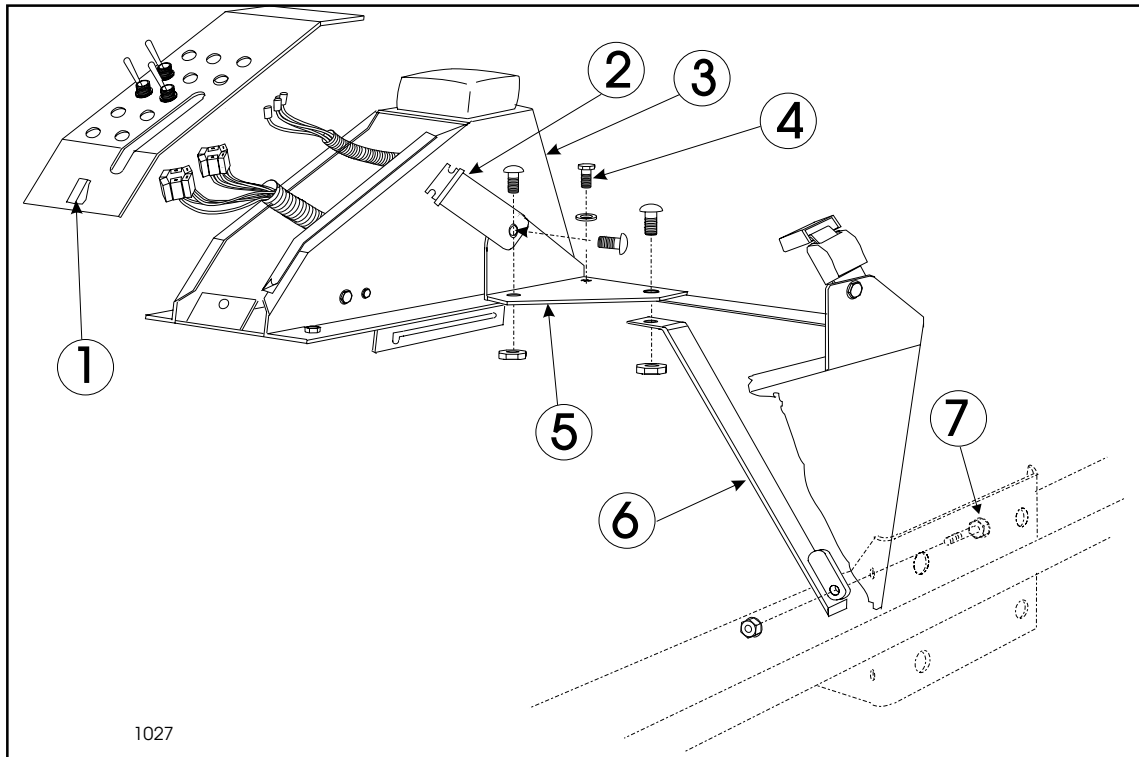

Figure 2
3. Remove lower rear mounting bolt and nut from L.H. Seat Box Panel and discard. Remove rear Center Console mounting bolt and flatwasher. Save for future use. Place inside L.H. Seat Belt Support on top of rear Seat Box Panel and along Center Console. See Fig. 2.
5. Secure L.H. Seat Box Support to Seat Box Panel and Rops Mount with 7/16" x 1 1/4" capscrew, and a 7/16" flange locking nut. See FIG. 2.
- Align upper mounting hole of L.H. Seat Box Support under rear Seat Box Panel and with inside Seat Belt Support. Secure with 7/16" x 1 1/4" carriage bolt and 7/16" flange locking nut. See FIG. 2.
7. Install Seat Belt Assembly to inside Belt Support using 7/16" x 1 1/4" carriage bolt and 7/16" flange locknut. **Note, the bolt will pass through the belt support and into the Center Console Assembly.** Tighten securely. See FIG. 2.